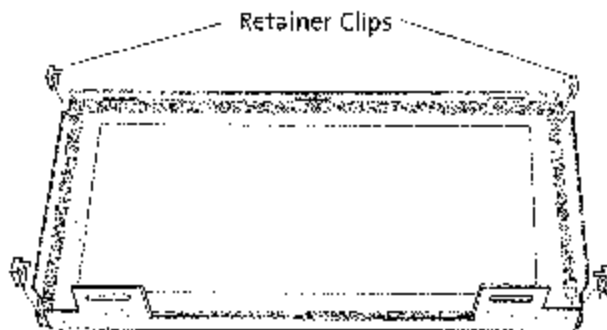

Figure 31. Glass Retainer Clip locations.
3. The glass panel is held in place by four compression clips. Use a screwdriver to pry these up off the edge of the glass retaining walls. See fig. 31.